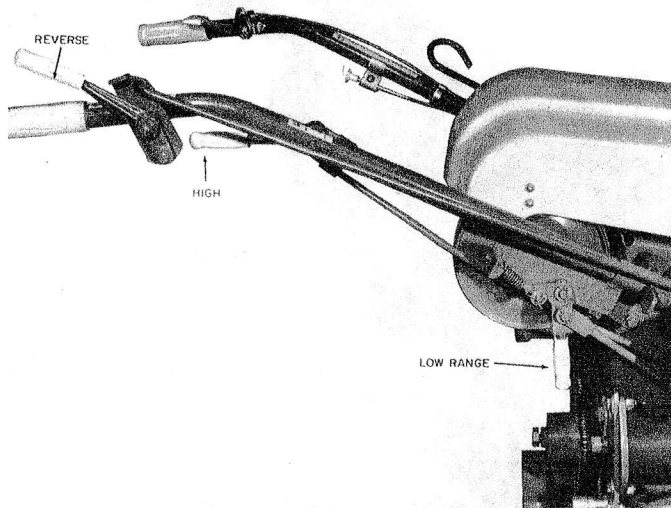
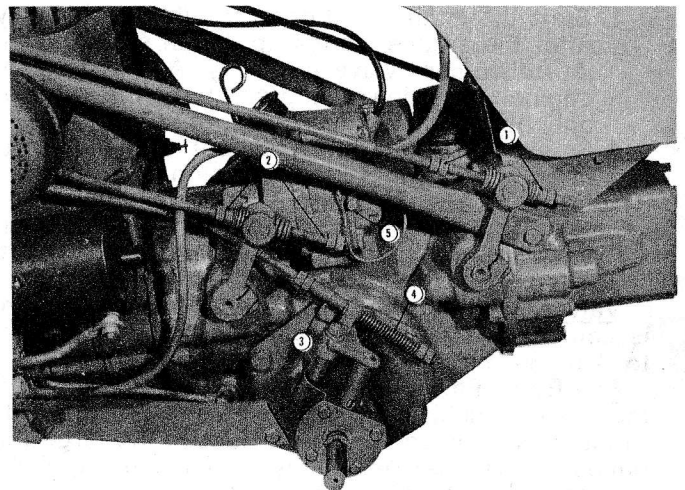

Figure 3
Figure 7
Engaging wheels - To put tractor in motion, first move the high-low control lever to either the high or low position (figure 3). Then move the forward-reverse control lever into forward or reverse. Depress the throttle to the desired speed.
- ... Ignition stop button is shorted out. To test, remove the ground wire from the magneto stop button and attempt to start the engine. See service manual or call your dealer. (See 5, figure 7.)
Clutch Rods - To adjust clutches, tighten the lock-nuts, 1 and 2 in Figure 7, until the clutch rod springs are compressed fully as each lever goes over center in the fully engaged position, either high or low gear or forward or reverse.
Range Selection Linkage - The toggle spring (located by the range lever) occasionally may require adjustment by tightening the hex nuts on the toggle rod until the spring is compressed to 15/16 inch (23.81 mm). Figure 3 and 4. To adjust springs, (3 and 4 in Figure 7), have the range selection lever engaged fully in high or low range, move the hex nuts (1 and 2 in Figure 7) on the spring rod until each spring is compressed 2 1/2 inches (63.5 mm).